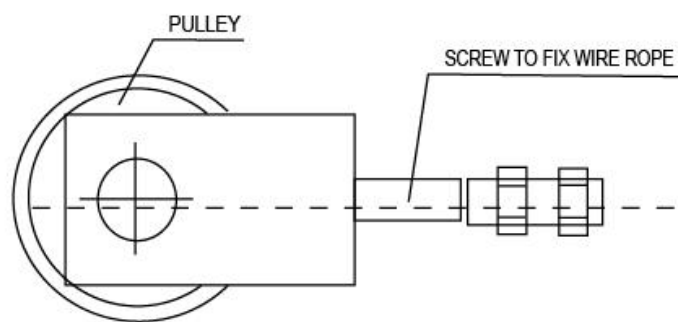

Fig. 2b
- 3.3.1 Wind the wire rope on the "Drum" 3 turns as shown Fig. 2b. tightening and fix it temporarily.